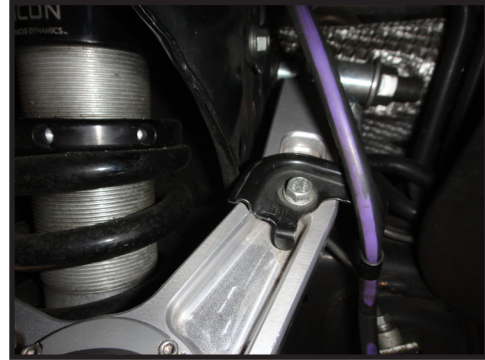

FIG.3
12. Using a 10mm socket/wrench reattach the ABS line to the threaded hole in the arm with the factory bolt. **(FIGURE 3)**